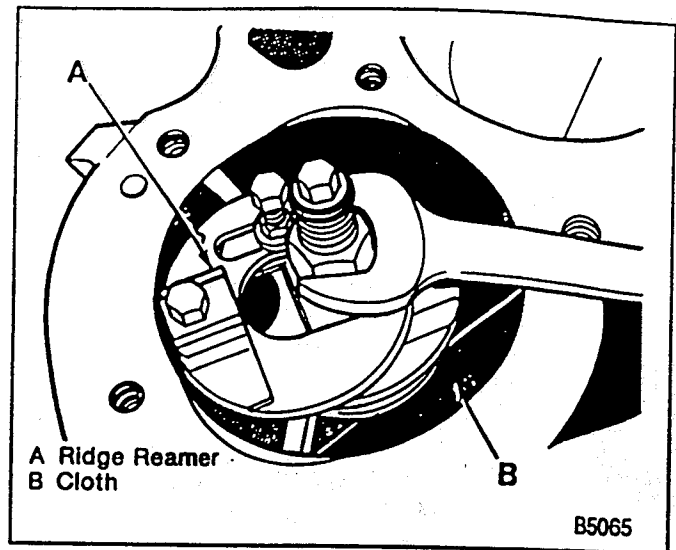

Figure 34—Removing the Cylinder Ridge
↔ Remove or Disconnect (Figures 34 and 35)
- Using the manufacturer's directions, install a ridge reamer into the top of the cylinder (figure 34). Perform the cutting operation.